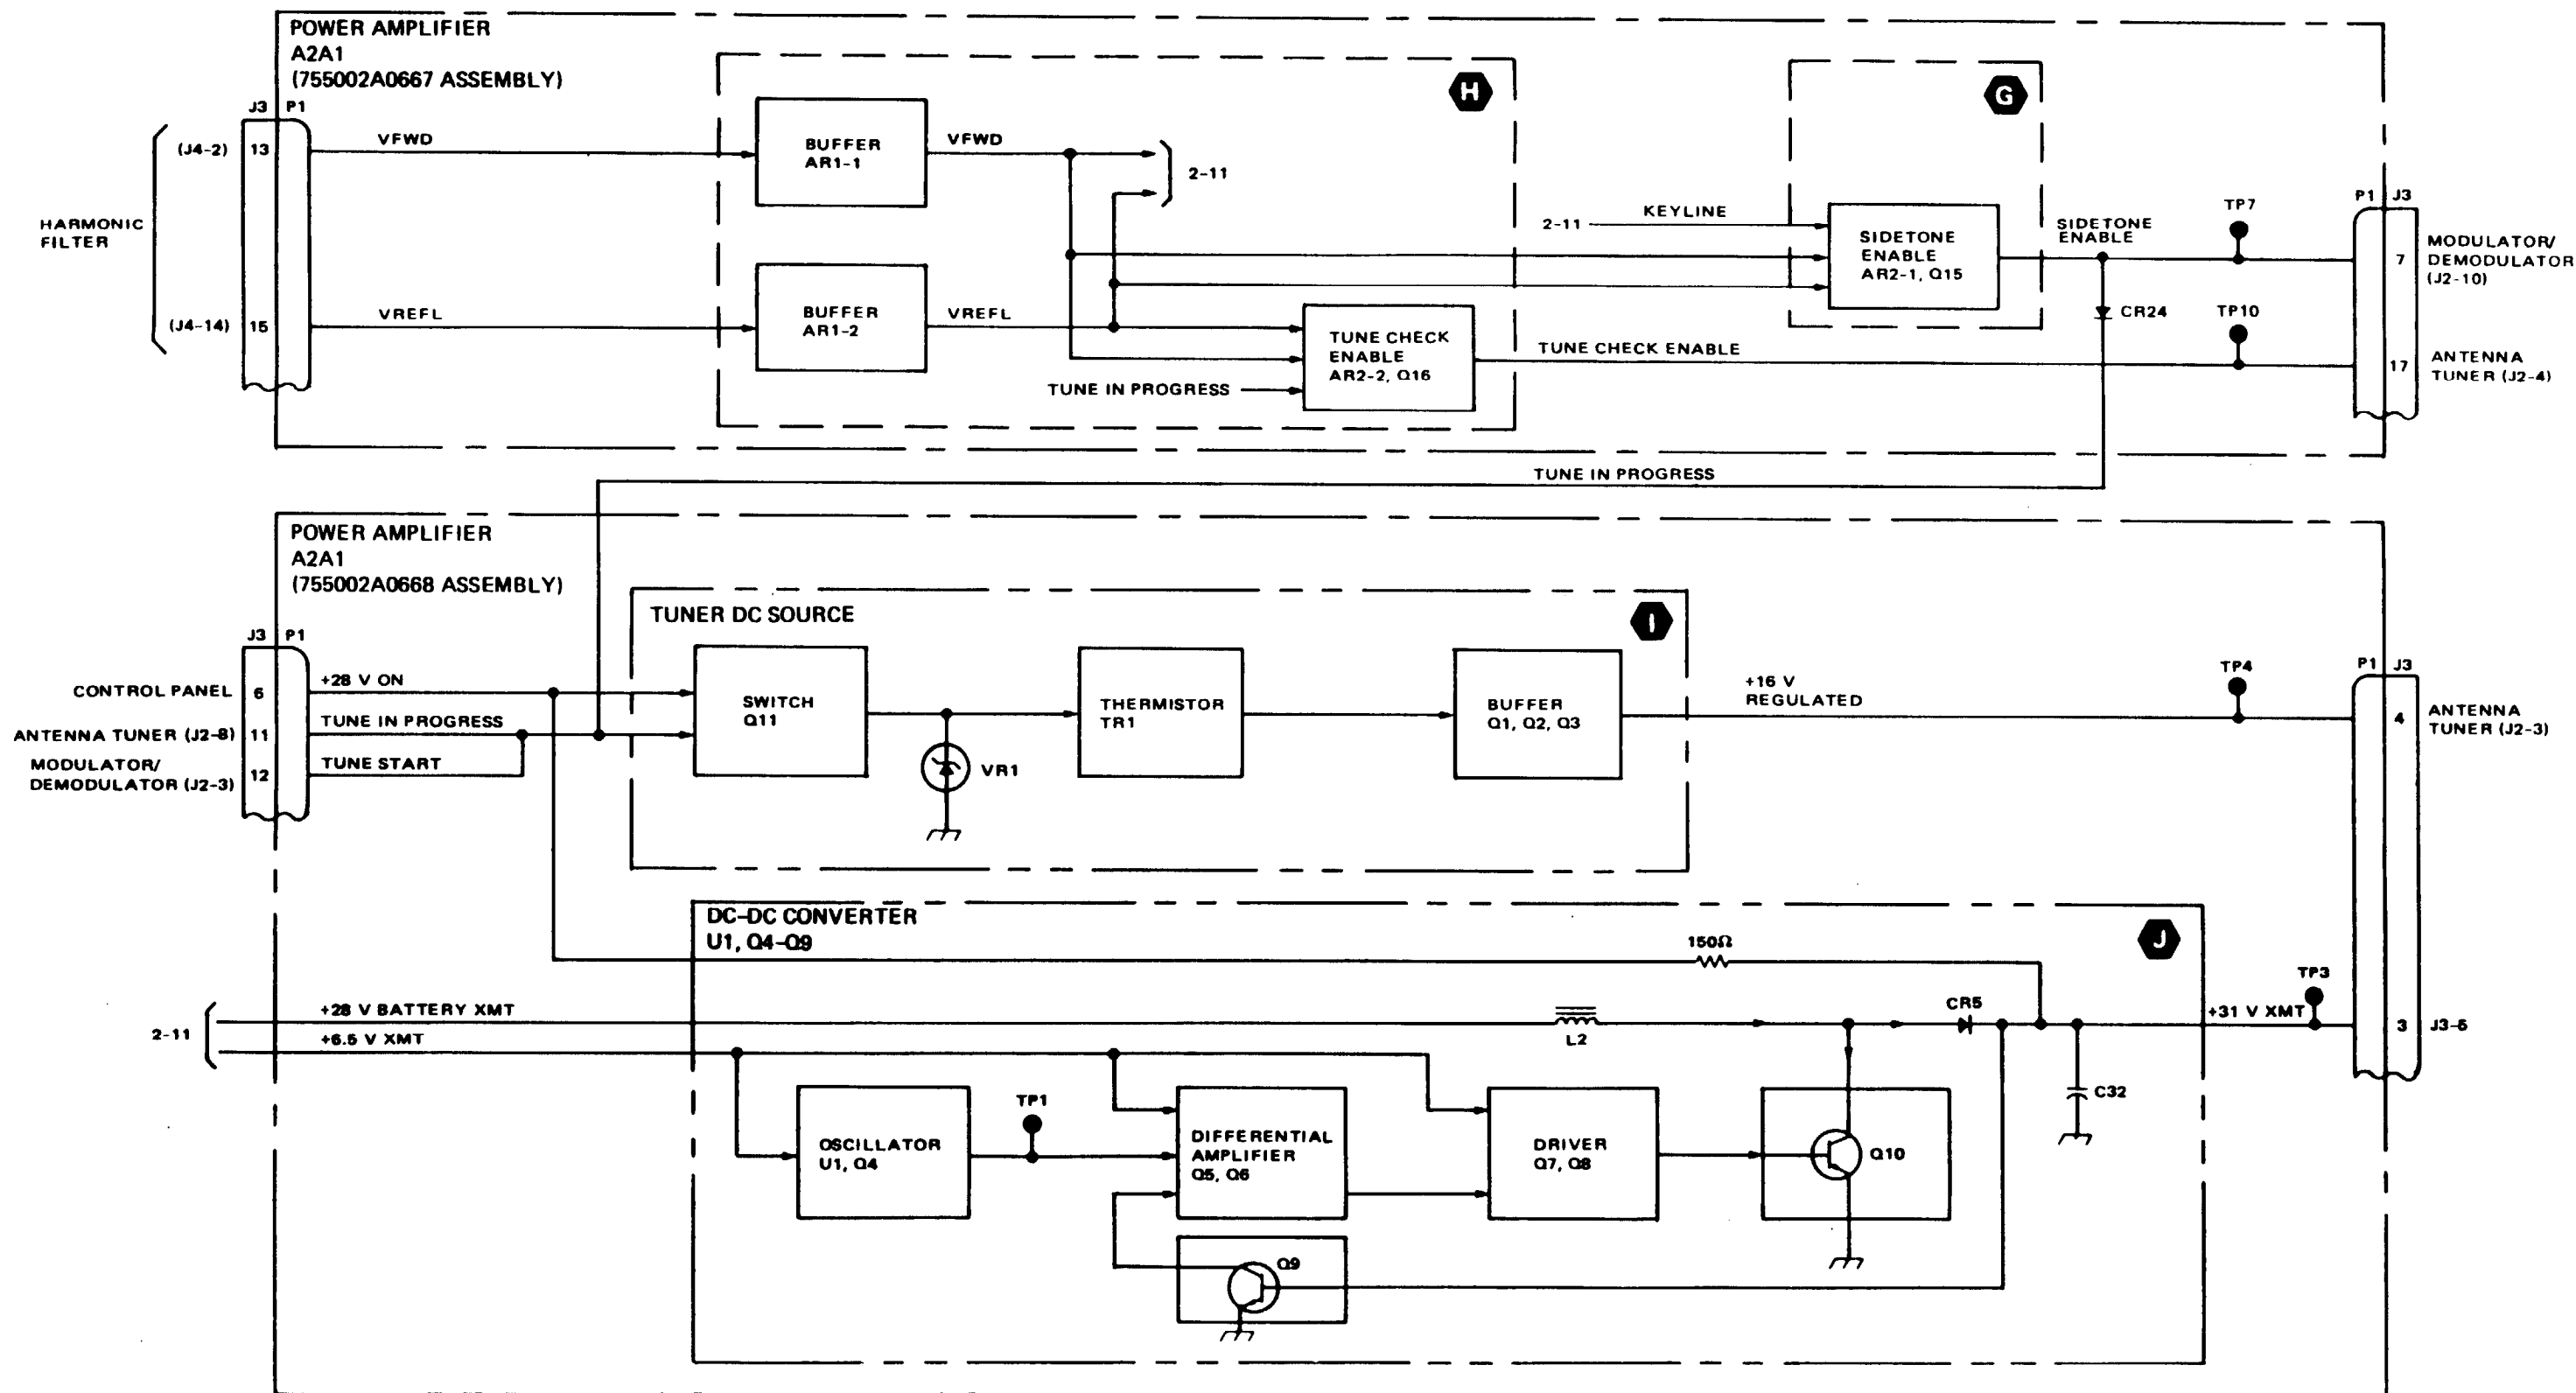

Figure 2-5. Power Amplifier (Sheet 2)
**ANTENNA TUNER (1 of 2), fig 2-5**